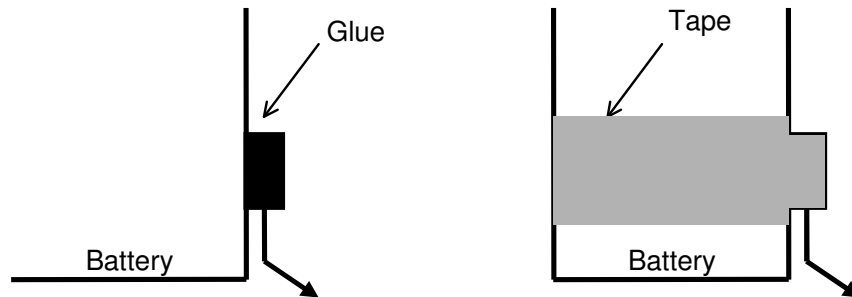

Figure 0-2 - Sensor Installation
1. Glue the sensor to the battery case as shown in diagram Figure 0-2.